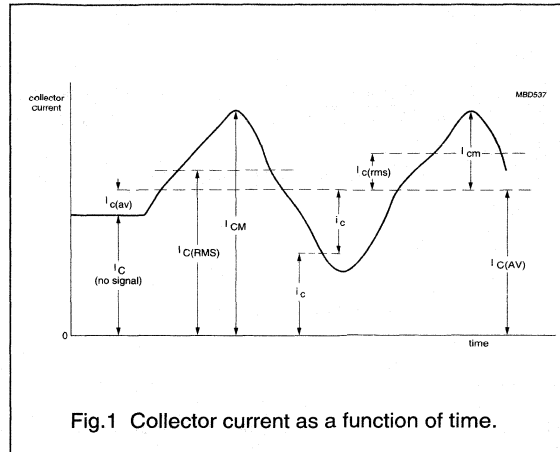

Fig.1 Collector current as a function of time.
Fig.1 represents a transistor collector current as a function of time. It comprises a continuous (DC) current and a varying component.
The flatness of gain of a CATV amplifier module is defined as the maximum deviation from an absolute flat gain over a given frequency range, after the slope of the amplifier over this frequency range has been optimized and equalized by means of a certain cable length to give the best result for flatness (see Fig.1 and Fig.2). This means that an 'ideal gain curve' for the module is calculated and the flatness is the maximum deviation of this 'ideal gain' curve.